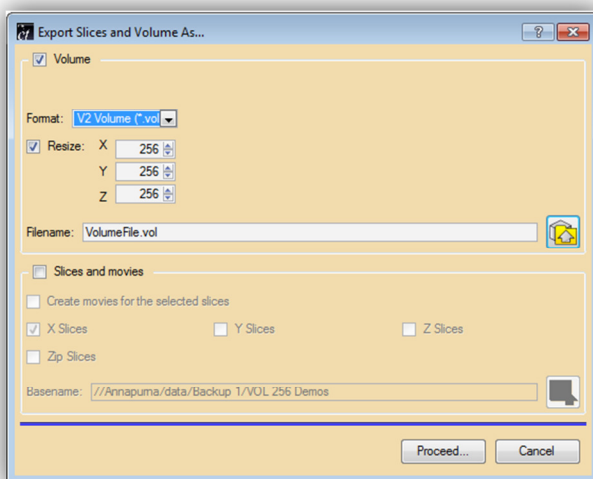

Figure 2.27: Modification of data dimensions
- Volume dimensions (Figure 2.27): by ticking `Resize`, it is possible to choose the final dimension of the output volume